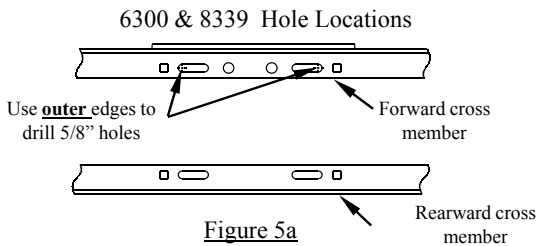

Figure 5a
- 8a. **For 6300 & 8339** use the **outer** edges of the long slots in the forward cross member as a template to drill 5/8" diameter holes through the truck bed as shown in Figure 5a. Not all holes can be drilled from under the vehicle, but will be done later from inside the bed.